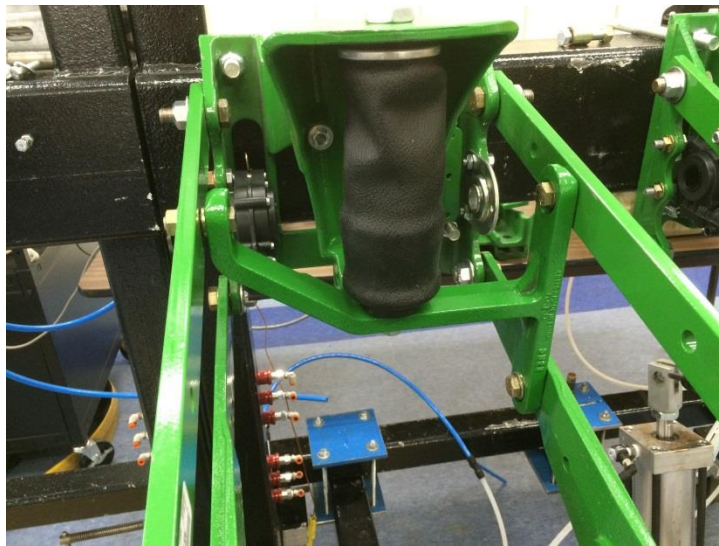

Figure 1, Long Row Down Force After Mount Adjustment
- If the planter has long parallel arms with pneumatic down forces, the “V” bracket on the bottom of the down force has to be loosened and rotated 180° as shown in Figure 1.